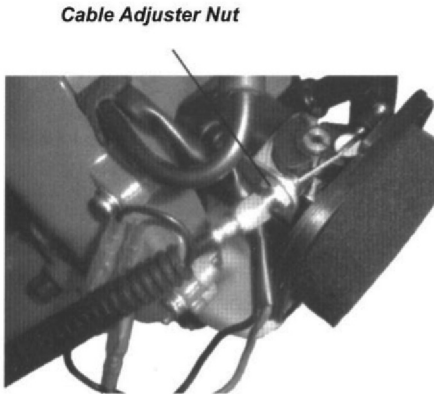

figure 9
1. Loosen the throttle cable nut at fan cover as shown in figure 9.